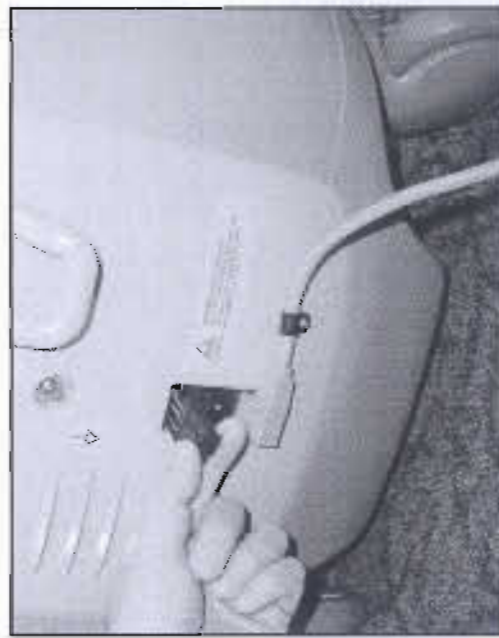

Figure 4-1 Remove fuse drawer from power module.
- 1.4 Grasp fuse drawer and slide it out of power module (see Figure 4-1).
- An advisory is a message to the user (see Figure 4-1). The advisory may require user intervention, or it may be for information purposes only. When an advisory condition is detected, the following occurs: